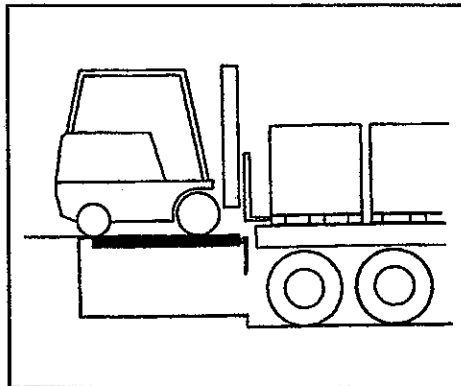

Fig. 30. Removing End Loads
3. If truck is loaded completely to the rear, preventing dock leveler lip from entering truck, remove end loads before actuating dock leveler. See Figure 30. If truck bed is below dock level, see Below Dock End Load Operation, page 23.
3. If truck is loaded completely to the rear, preventing dock leveler lip from entering truck, remove end loads before actuating dock leveler. See Figure 30. If truck bed is below dock level, see steps 3 through 8, Below Dock End Load Operation, page 23.